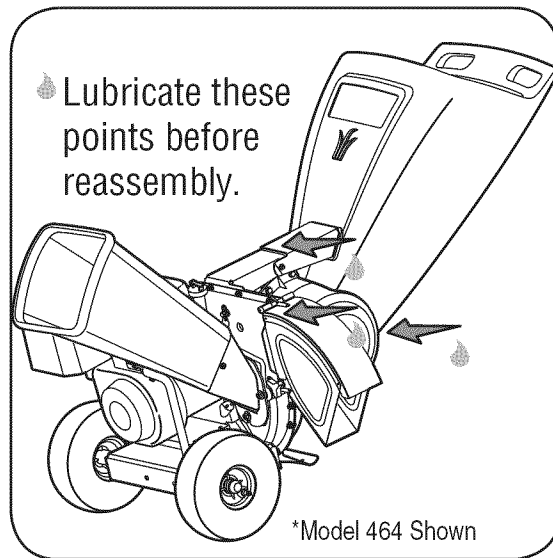

Figure 5-1
1. Lubricate the release rod and spring with light oil once a season. See Figure 5-1.
2. Lubricate the pivot points on the hopper assembly with light oil once a season. See Figure 5-1.
3. Lubricate the pivot points on the discharge chute with light oil once a season. See Figure 5-1.